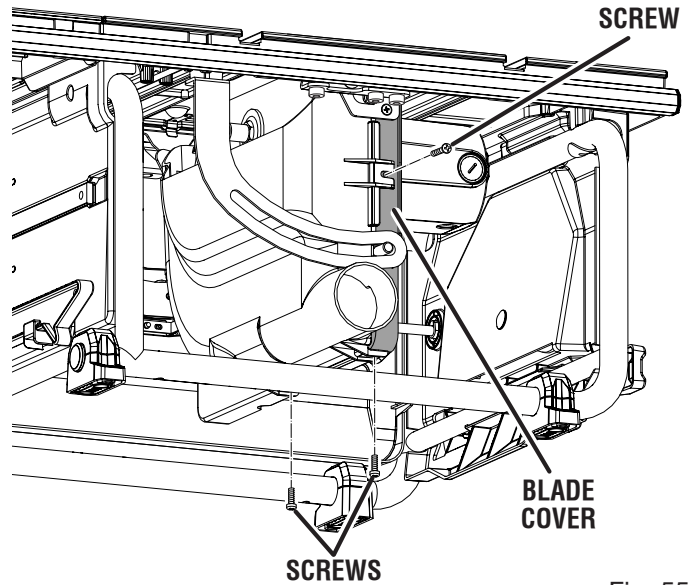

Fig. 55
- Remove the screws and open the blade cover. Clean sawdust and wood chips from the blade cover. Close and secure. (See figure 55.)